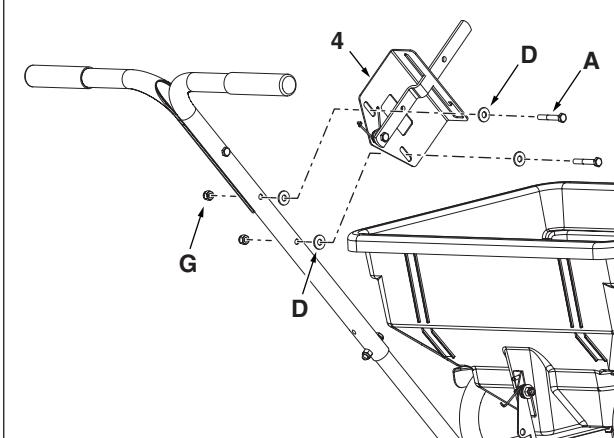

Figure 13
STEP 13: (SEE FIGURE 13)
- Attach the control assembly (4) using two 1/4 - 1-3/4" hex bolts (A), four 5/16" washers (D) and two 1/4" nylock nuts (G).